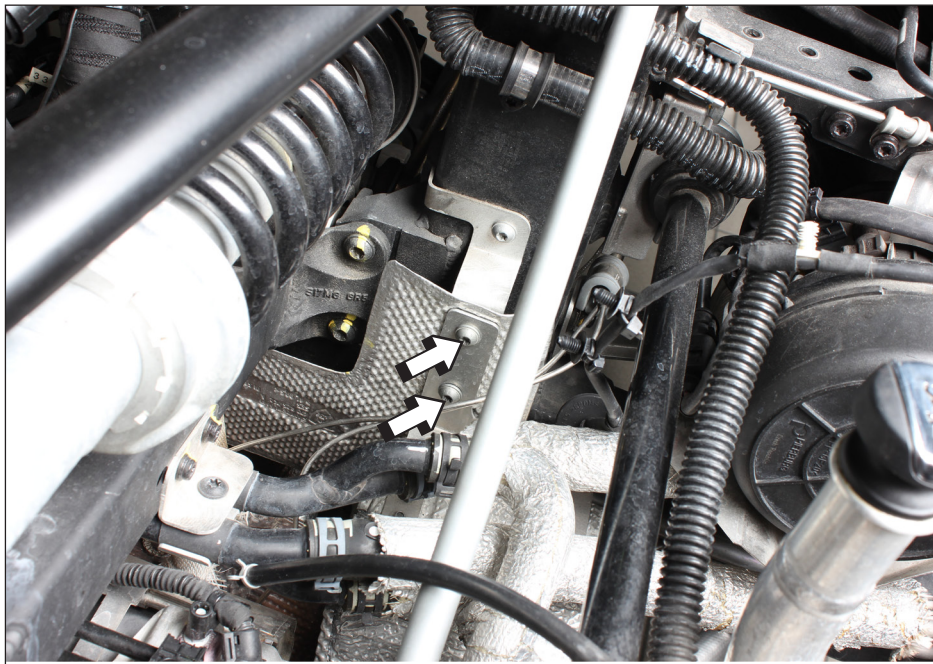

Figure 5
6. Unscrew and remove the right drive axle's upper part of the heat shield (**Figure 5**).